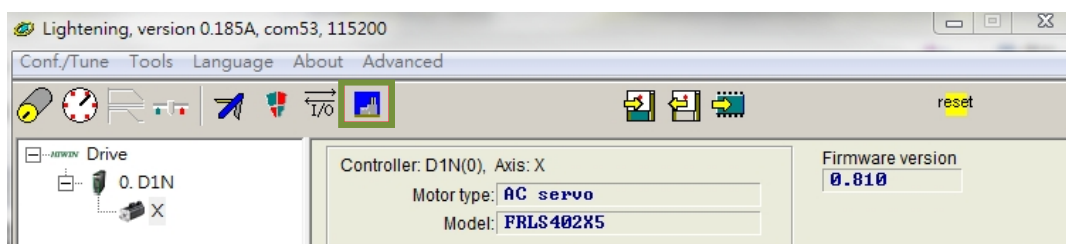

Figure13.2.1
Step 1: To open **PDL** window, click on the icon (🖨️) indicated in figure 13.2.1.